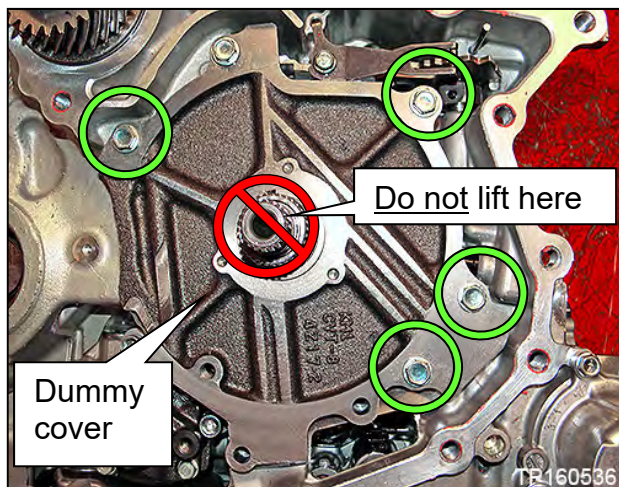

Figure 47
29. Remove the five dummy cover bolts, and then remove the dummy cover. See Figure 47.
- Lift the dummy cover from sides **ONLY**. Do **NOT** lift from the input shaft (Figure 47). This can lift the clutch pack out.